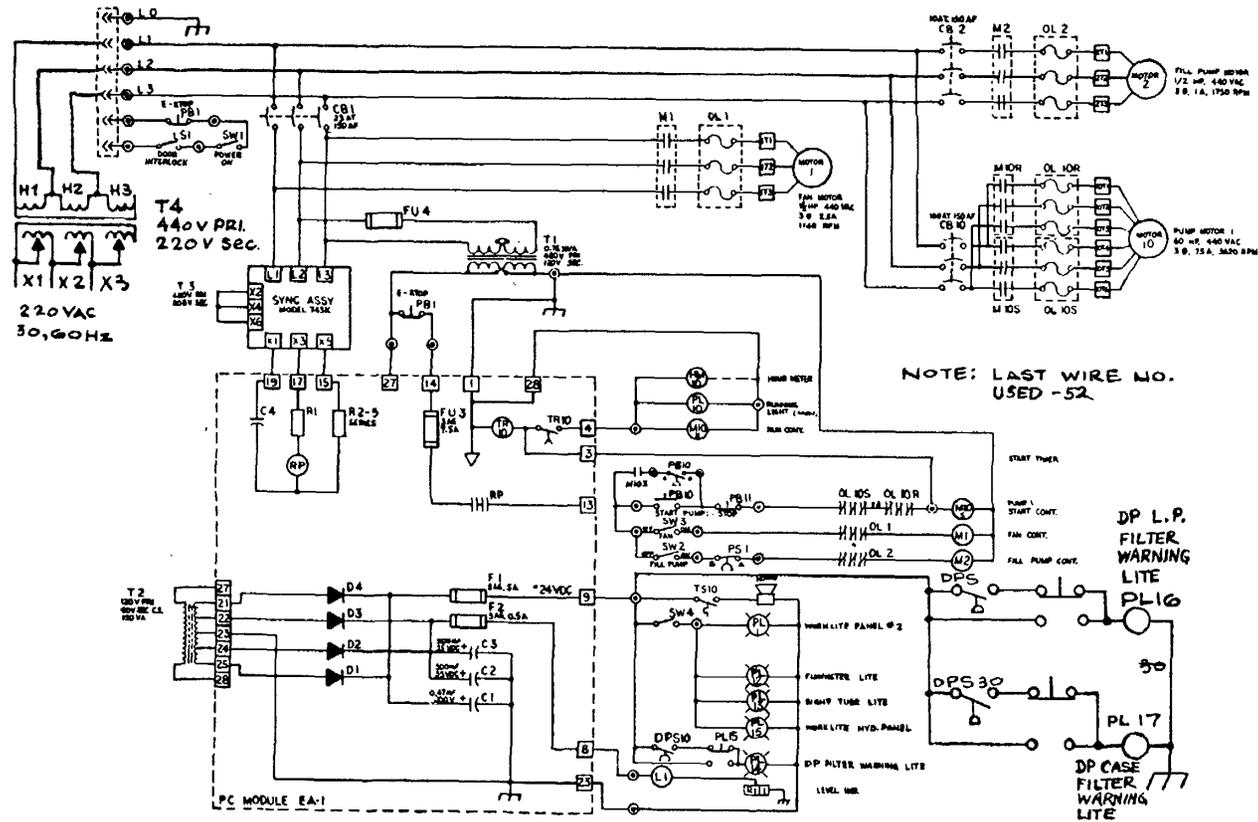

Figure 1-6. Electrical Schematic.
- a. Relief valve (5) in the low pressure section protects the filter cooler and flowmeter from over pressurization.
- b. Thermostat (11) in the high pressure pump actuates to sound a warning horn when the fluid temperature reaches 160-170 degrees F.
- c. Low pressure switch (17) protects the high pressure pump against cavitation due to low inlet pressure or boost pump failure. If the pressure drops below 40 psig, the motor will shut off.
- d. Check valve (14) allows fluid to bypass the boost pump in the event of pump failure, preventing fluid starvation of high pressure pump.
- e. Differential pressure switch (23) across the inlet and outlet ports of the high pressure filter illuminates red warning light on control panel to indicate clogged filter element. A duplex gauge (15) across the fill system filter (38) monitors inlet and outlet pressures at all times. Low pressure filter is monitored with selector at all times. Low pressure filter is monitored with selector valve (25) positions of boost pump outlet and high pressure pump inlet.
**1-24. Electrical System (Fig. 1-6).** The system provides the circuits and controls for test stand functioning of electrical components. The controls of the electrical system are mounted in a Nema 12 control box at the front of the test stand, with a hinged access door to permit facility of maintenance and inspection. The test stand is designed to operate on 220/440 volts, AC, 3 phase, 60 cycle. Circuit breakers are incorporated in the line power circuit for motor protection with manual reset buttons extending through the control box door. The main pump motor is started by part winding magnetic contactors in order to reduce inrush currents. A time delay relay is incorporated to sequence the pulling in of the starting and running contactors. The cooler fan and fill pump motors are started across the line. All contactors are furnished with overload heater coils and externally operated reset buttons. A reverse phase relay is incorporated in the circuit to protect the motors from damage by improper wiring. Transformers and rectifiers are used to provide 110 volts to the motor control circuits and 24 V.D.C. to the instrumentation circuits.